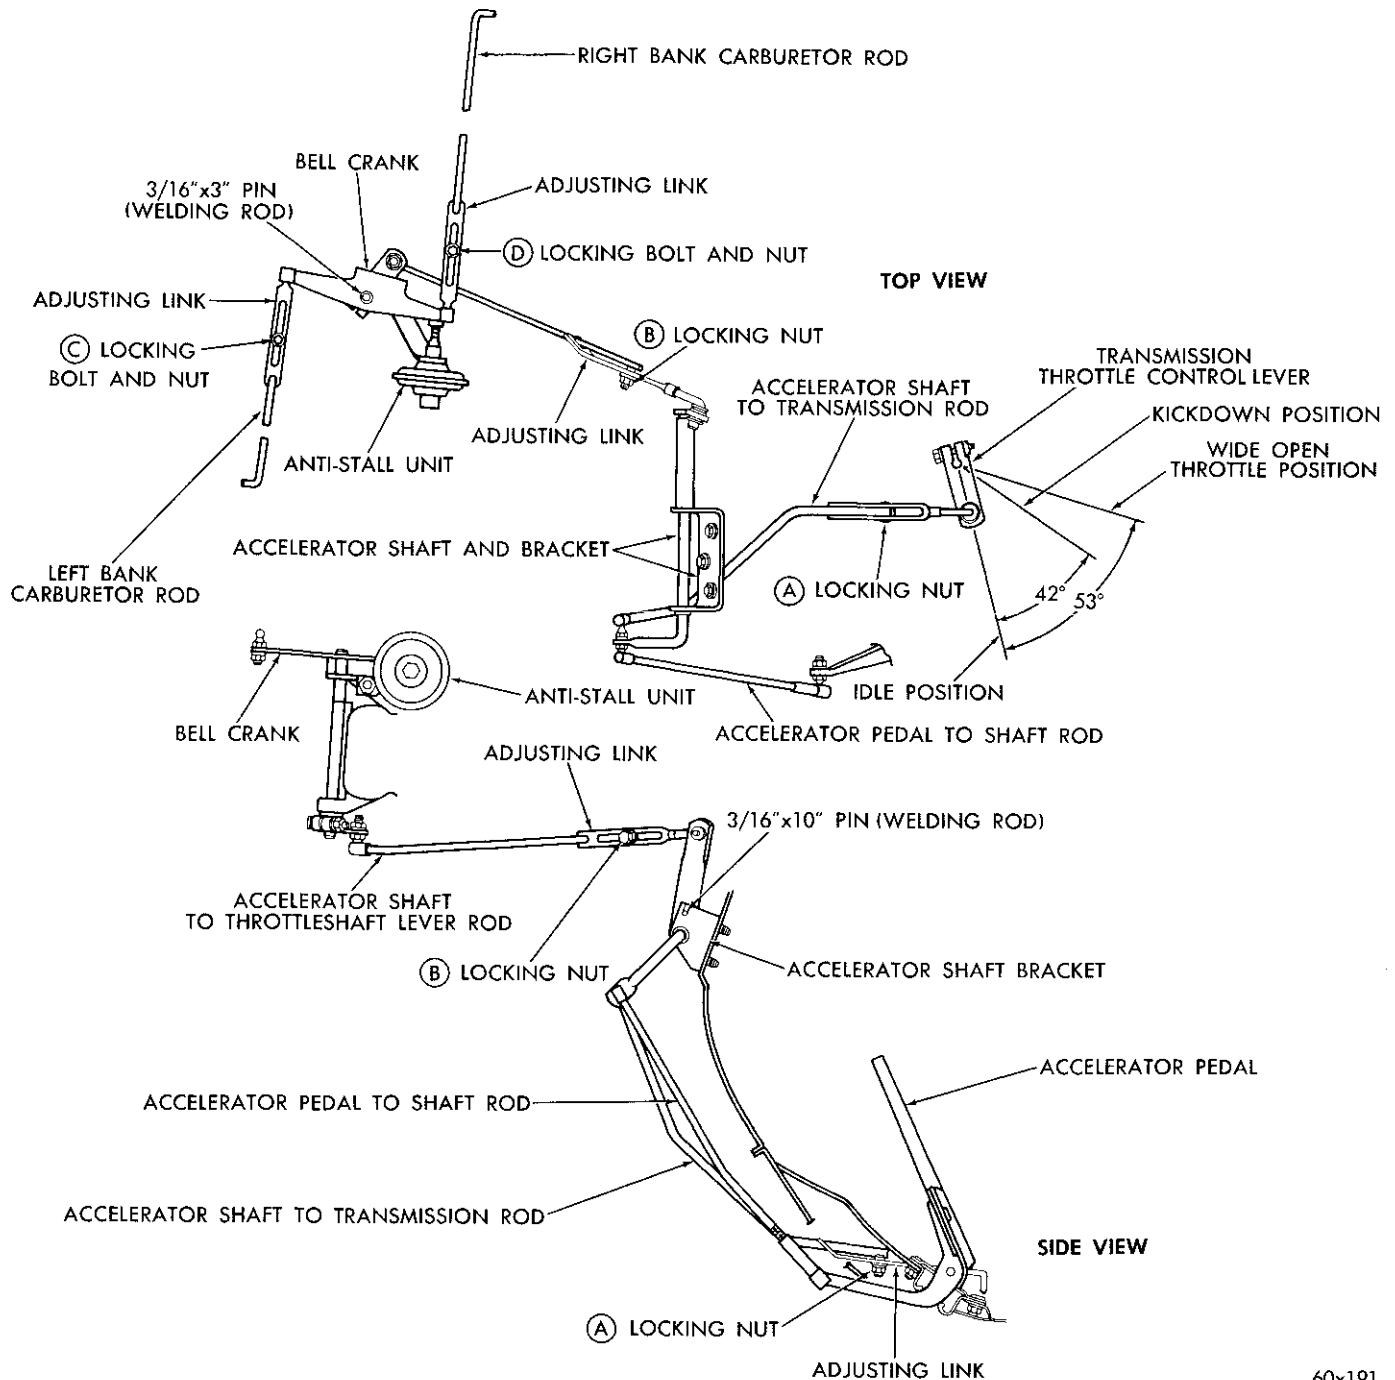

Fig. 98—Throttle Linkage—Ram Manifold (Schematic View)
(1) The line pressure is increased from 90 to 105 psi, (refer to ram manifold line pressure chart). In order to achieve this change, a heavier regulator valve spring is used.
(2) Governor pressure is also changed. (Refer to ram manifold governor pressure chart.) In this case, the governor weight assembly incorporates a heavier spring along with a lighter outer weight.
(3) Due to the increased torque provided by ram induction, the kickdown and reverse planet pinion carrier assemblies differ, they embody a planet pinion carrier that is made of a different aluminum alloy.
(4) The throttle linkage is designed to conform with the ram manifold equipped engine. (Refer to Fig. 98).